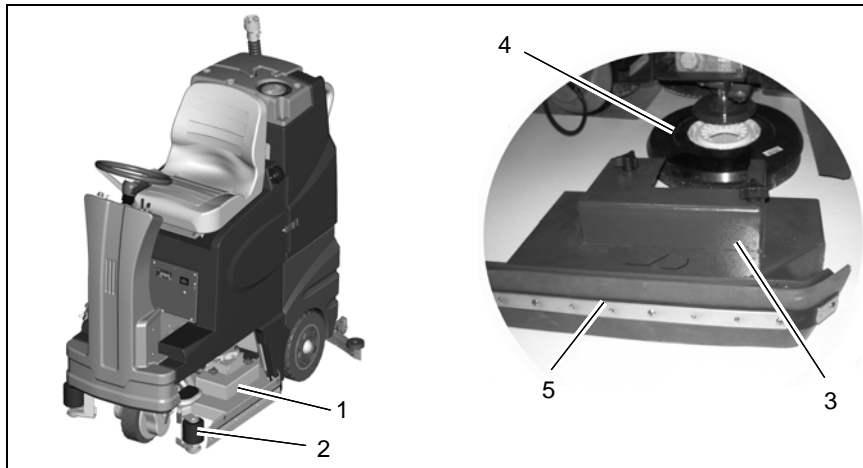

Fig.17
Clean the brushes of the brush deck (Fig. 17/1) at daily intervals or as required.
1. Remove the deck cover (Fig. 17/3).
2. Push down on brush (Fig. 17/4) to remove for cleaning.
Check roller bumper (Fig. 17/2) at weekly intervals or replace as required.
Check side squeegee (Fig. 17/5) at weekly intervals or as required. Remove the two (front and back) wingnuts located behind the squeegee blades. Remove squeegee blade. Proceed to mounting in reverse order. Side squeegee blades can be used fourfold by flipping and turning them.